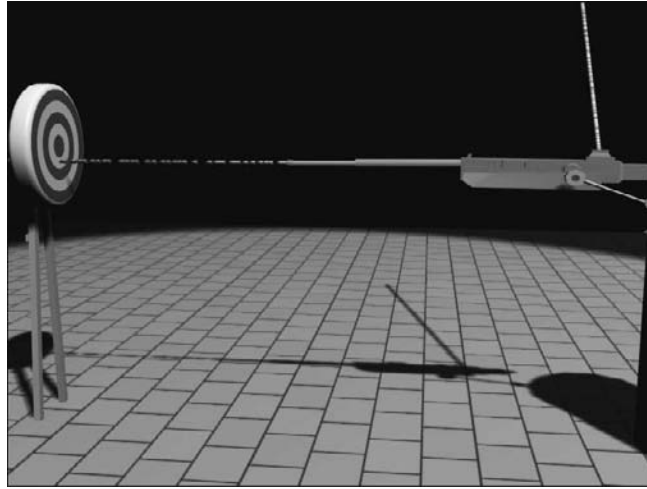

Figure 12.31
13. Drag the Time slider. The two particle systems emit equal numbers of particles at the same time. The brass ejects in a straight line from the gun body, as shown in Figure 12.31. The straight-line emission is corrected in the next section. You can now change the rate at which the bullets fire, and the brass will eject properly automatically!